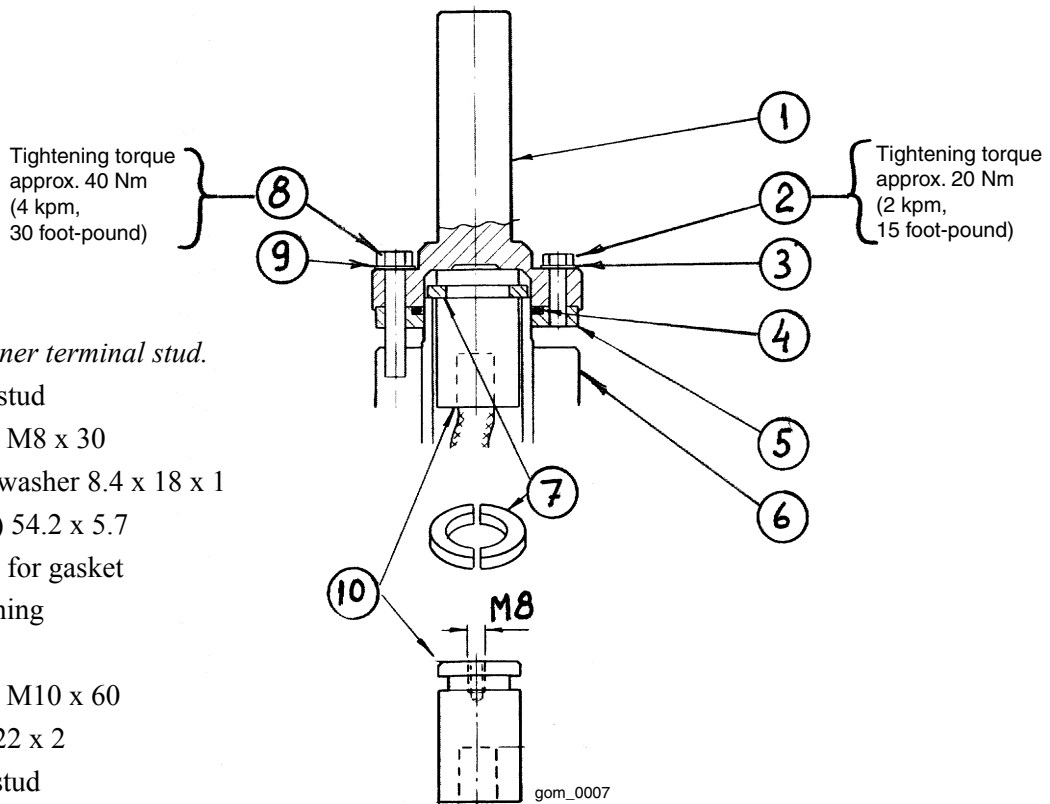

Fig. 8. Outer and inner terminal stud.
6. Lock the inner terminal with the divided ring according to Fig. 8.